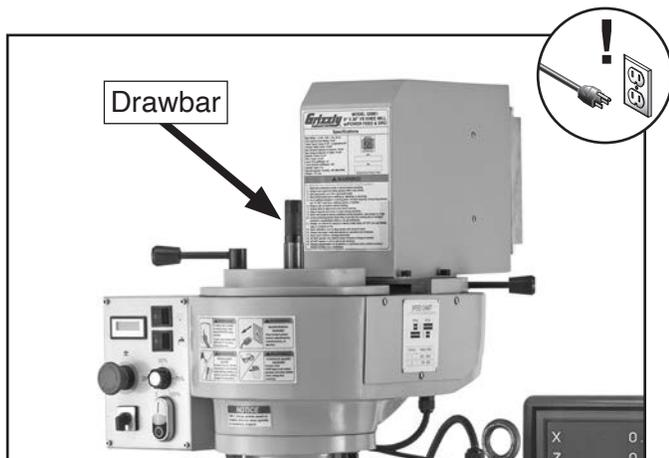

Figure 37. Drawbar loaded in spindle.
4. With one hand holding tool in place, insert drawbar into spindle from top of headstock (see **Figure 37**), then thread it into tooling by hand until snug.